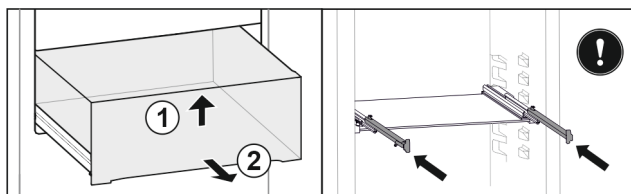

Fig. 83
- ▶ Lift up drawer at the front. Fig. 83 (1)
- ▶ Remove drawer to the front. Fig. 83 (2)